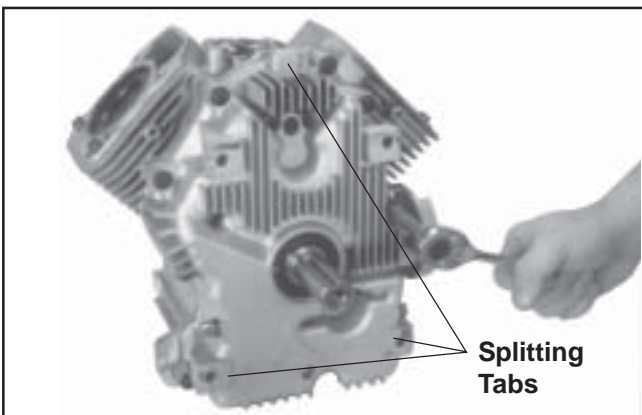

Figure 9-55. Removing Oil Pan Fasteners.
1. Remove the ten hex flange screws securing the oil pan to the crankcase. See Figure 9-55.
2. Locate the splitting tabs cast into the perimeter of the oil pan. Insert the drive end of a 1/2" breaker bar between the splitting tab and the crankcase and turn it to break the RTV seal. See Figure 9-55. Do not pry on the sealing surfaces as this can cause leaks.